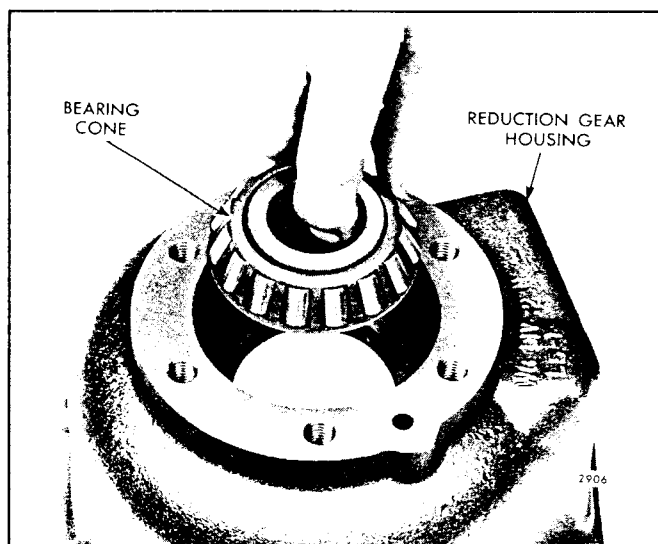

Fig. 94 - Installing Reduction Gear Drive Shaft Inner Bearing Cone in Gear Housing
- b. Lubricate the rollers of the inner bearing cone with engine oil, then place the inner bearing cone down in the bearing bore in the rear face of the reduction gear housing with the (tapered) small outside diameter of the cone facing up (Fig. 94).